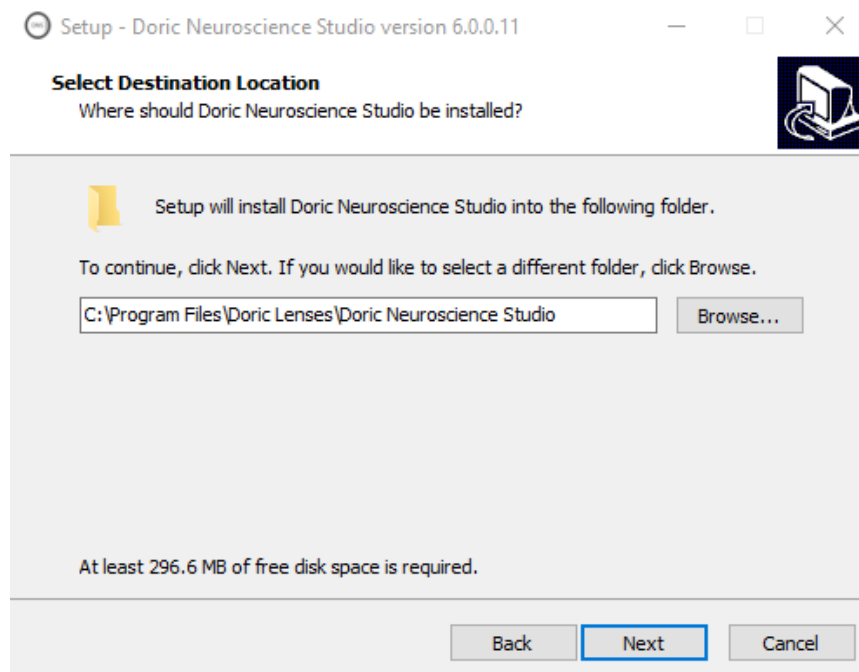

Figure 4.3: Select Destination Location
6. **Choose** where to install the software (Fig. 4.3) and click **Next**.